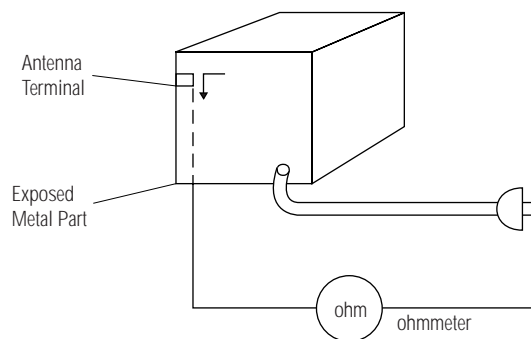

Fig. 2 Insulation Resistance Test
(4) Insulation Resistance Test Cold Check-(1) Unplug the power supply cord and connect a jumper wire between the two prongs of the plug. (2) Turn on the power switch of the instrument. (3) Measure the resistance with an ohmmeter between the jumpered AC plug and all exposed metallic cabinet parts on the instrument, such as screwheads, antenna, control shafts, handle brackets, etc. When an exposed metallic part has a return path to the chassis, the reading should be between 1 and 5.2 megohm. When there is no return path to the chassis, the reading must be infinite. If the reading is not within the limits specified, there is the possibility of a shock hazard, and the instrument must be repaired and rechecked before it is returned to the customer. See Fig. 2.